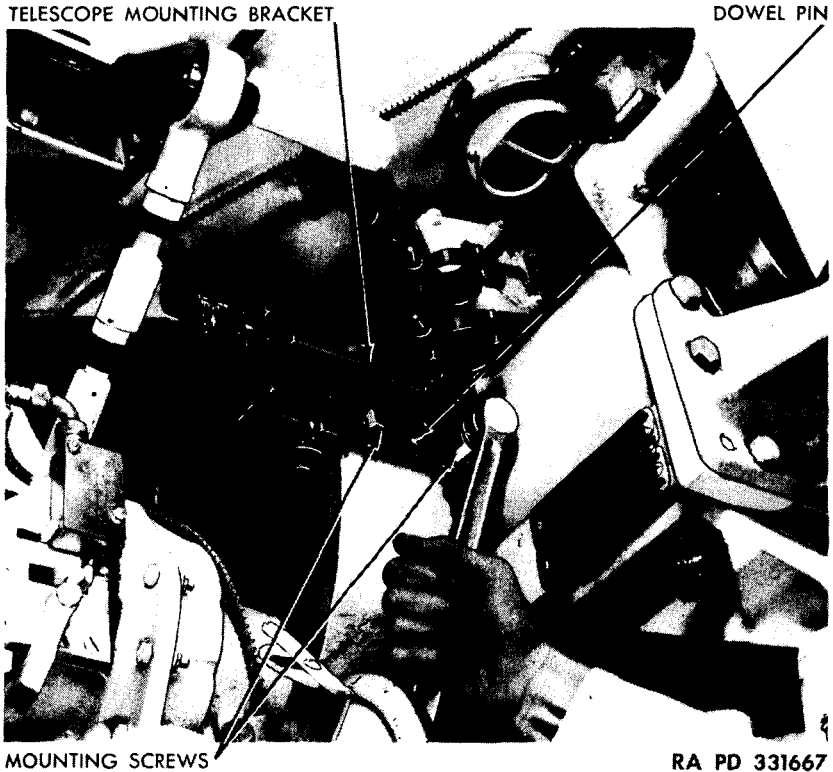

Figure 56. Removing telescope mounting bracket (M24).
j. REMOVE TELESCOPE MOUNTING BRACKET. Remove screws and washers holding telescope mounting bracket to elevating sector (fig. 56). Lift telescope bracket off dowel pin and remove bracket.